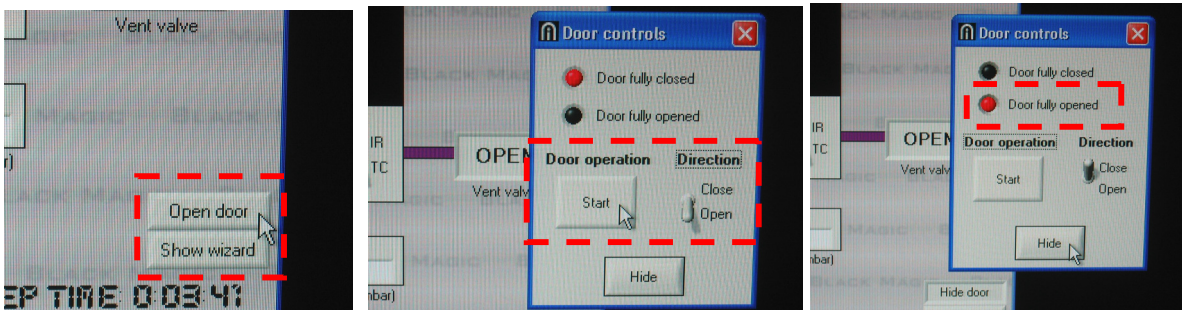

Figure 21. Open door button (left), initial door menu before opening (center), final door menu after opening (right).
- 31- Once the chamber is vented, left click the *Open Door* button (Figure 21, left). A Door Controls Window will open. The *Door Fully Closed* red indicator must be present (Figure 21, center). To open the door, make sure the *Open* direction is selected, and then left click on *Start*. The lid will open automatically. **CORAL must be engaged in order to raise the chamber lid. Also, the chamber enclosure door must be closed.** The *Door Fully Opened* red indicator must appear at the end of the step (Figure 21 right). If not, check again the direction of movement of the door is *Open* and push again *Start*. Don't open the chamber enclosure door UNTIL the *Door Fully Opened* red indicator appears.
- 33- To close the chamber door, make sure the *Close* direction is selected, and then left click on *Start* (Figure 21, left). The lid will close automatically. **The chamber enclosure door must be closed.** The *Door Fully Closed* red indicator must appear at the end of the step. If not, check again that the direction of movement for the door is *Close* and push again *Start*. At the end, the *Door Fully Closed* red indicator appears.